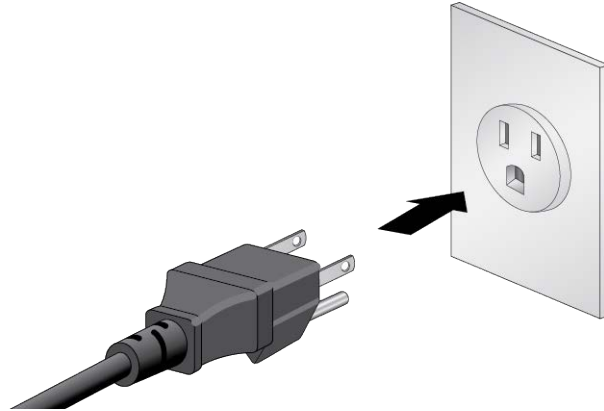

Figure 125. Connecting the Power Cord to an AC Power Source
3. Connect the power cord to an appropriate AC power source. Refer to Figure 125.